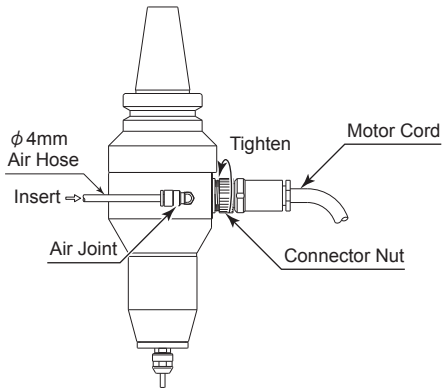
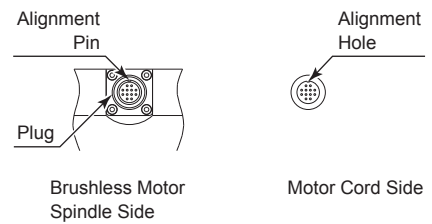

Fig. 16
Fig. 17
- ④ Insert the  $\phi 4\text{mm}$  air hose to the Air Joint on the side face of the Brushless Motor Spindle (Fig. 16).
- ⑤ Remove the Electrical Protective Cap of the Motor Cord and keep it for use when not using the Motor / Spindle to keep the connector pins safe and clean.
- ⑥ Carefully insert the Alignment Pin on the Motor / Spindle into the Alignment Hole on the Motor Cord, then push the connector straight into the Electrical Connection of the Motor / Spindle (Fig. 17).
- ⑦ Tighten the Connector Nut of the Motor Cord in a clockwise direction (Fig. 16).
Install the Lock Bar by screwing the Lock Bar into the threaded hole provided on the taper shank as shown in Fig. 17.